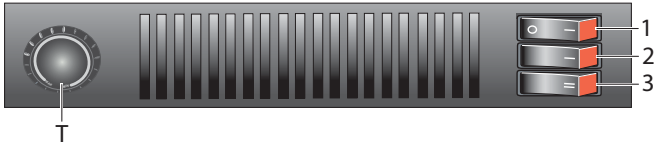

Fig. 2
Controls - see Fig. 2
Thermostat (T) - see Fig. 2